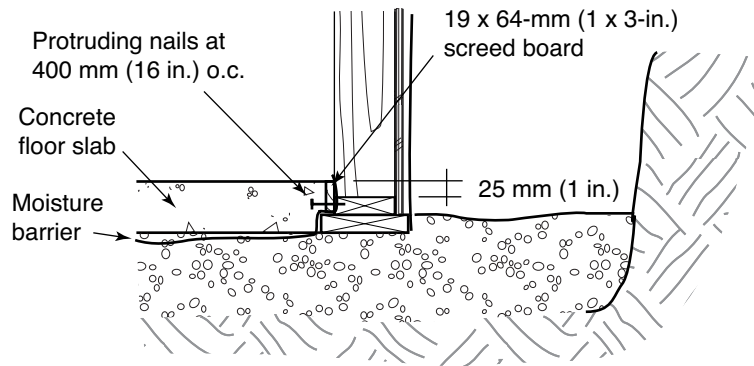

FIGURE 50
- ◆ For a concrete floor slab, ensure that there is at least 25 mm (1 in.) of concrete bearing against the wall studs. Pour concrete against a PWF screed board (see Figure 50).